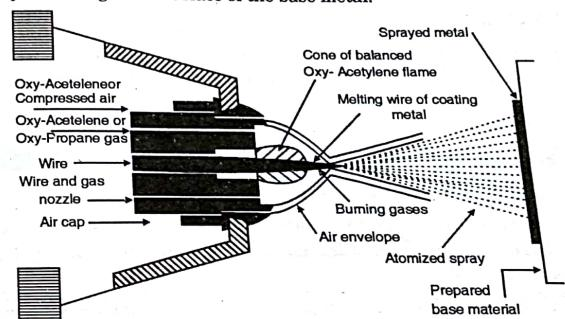

Fig. 1.7.4 : Metal spraying with gun
- The metal used for coating is taken in the form of a wire, and this wire is fed into the gun. When base metal is to be coated with this metal (normally low melting like Zn, Pb, Sn, etc.) the gun is operated. As the gun is equipped with oxyacetylene flame and supply of compressed air as shown in Fig. 1.7.4, melting of metal wire and spraying the molten mass occurs simultaneously and an uniform coating is developed on the surface of base metal.